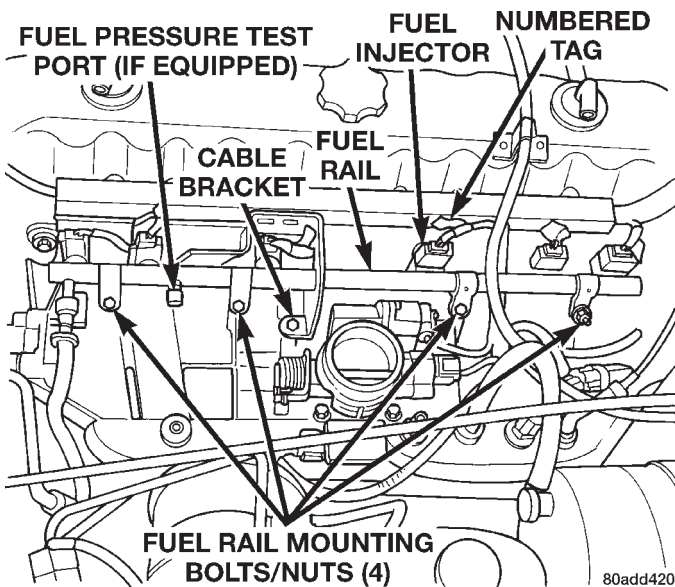

Fig. 35 Fuel Rail Mounting—4.0L Engine
- (1) Remove fuel tank filler tube cap.
- (2) Perform Fuel System Pressure Release Procedure as described in this Group.
- (3) Disconnect negative battery cable from battery.
- (4) Remove air tube at top of throttle body. Note: Some engine/vehicles may require removal of air cleaner ducts at throttle body.
- (5) Remove injector harness electrical connectors at each injector. Each injector connector should have a numerical tag attached identifying its corresponding cylinder (Fig. 35). If not, identify each connector before removal.
- (6) Disconnect fuel supply line latch clip and fuel line at fuel rail. Refer to Quick-Connect Fittings in this group for procedures.
- (7) Disconnect throttle cable at throttle body. Refer to Throttle Cable Removal/Installation in this group for procedures.
- (8) Disconnect speed control cable at throttle body (if equipped). Refer to Speed Control Cable in Group 8H, Speed Control System for procedures.
- (9) Disconnect automatic transmission cable at throttle body (if equipped).
- (10) Remove cable routing bracket (Fig. 35) at intake manifold.
- (11) Clean dirt/debris from each fuel injector at intake manifold.
- (12) Remove fuel rail mounting nuts/bolts (Fig. 35).
- (13) Remove fuel rail by gently rocking until all the fuel injectors are out of intake manifold.